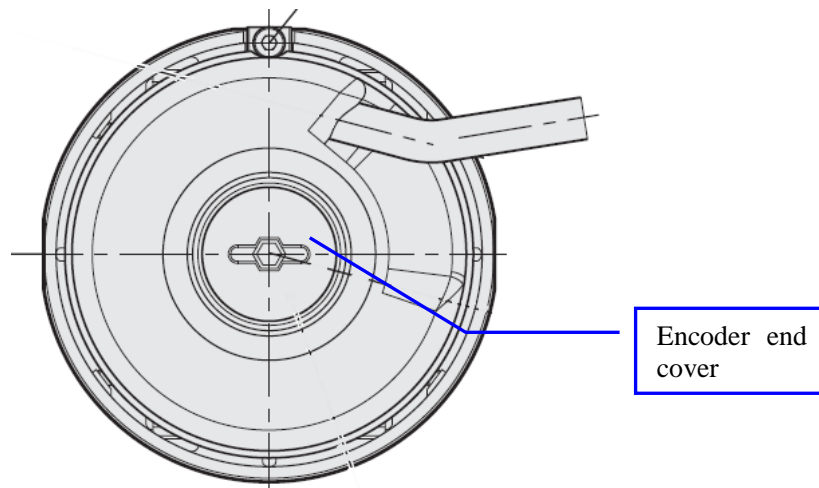

Figure 15: Remove Encoder end cover
1. Remove end cover of the new encoder using a hex wrench (4mm). See Figure 15.